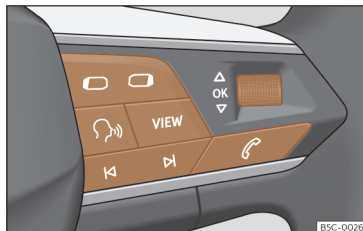

Fig. 64 Right side of the multifunction steering wheel: buttons for using the instrument cluster's menus and information displays (depending on versions).
As long as a priority 1 >>> page 75 warning is active, it will not be possible to access any menu. Some warnings can be confirmed and hidden with the button **OK** of the multifunction steering wheel >>> **Fig. 64**.
- If a message or vehicle symbol is displayed, press the button **OK** >>> **Fig. 64**; if necessary, several times.
- To change menus, use buttons  or  >>> **Fig. 64**.
- To open the menu or the information displayed, press the button **OK** >>> **Fig. 64** or wait a few seconds until the menu or the informative display opens automatically.
- In the menu displayed, turn the right thumbwheel of the multifunction steering wheel >>> **Fig. 64** until the desired option of the menu is highlighted. The option appears framed.
- Press the button **OK** >>> **Fig. 64** to make the required modifications. A mark indicates that the system or function is activated.
Press the button  or  >>> **Fig. 64**.